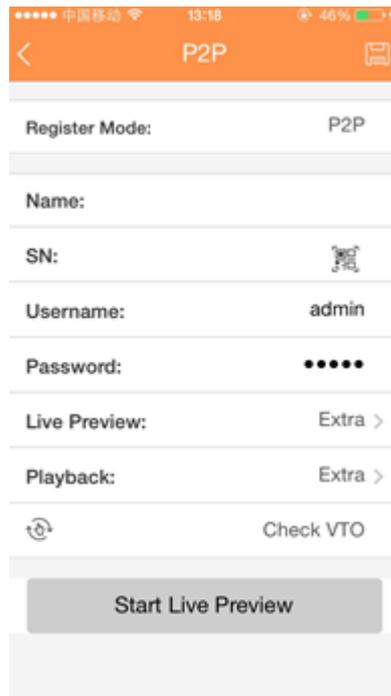

Figure 2-18
- Step 4 Tap Device manager button, you can use several modes (P2P/DDNS/IP and etc.) to add the device. Click  to save current setup. Tap Start Live preview to view all-channel video from the connected device. See Figure 2-18.